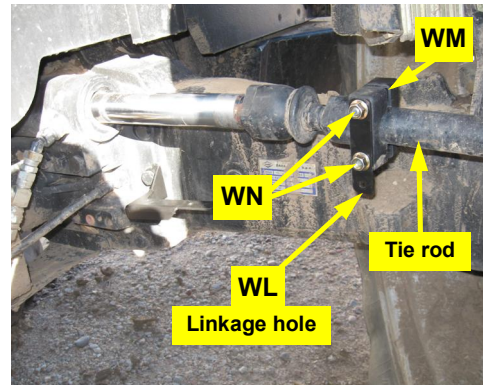

Figure 2c: Installed WAS clamp and bracket
- c. Attach the plastic clamp **WM** and the bracket **WL** to the tie rod with provided hardware **WN** with **WL**'s linkage hole at the bottom (Figure 2c).